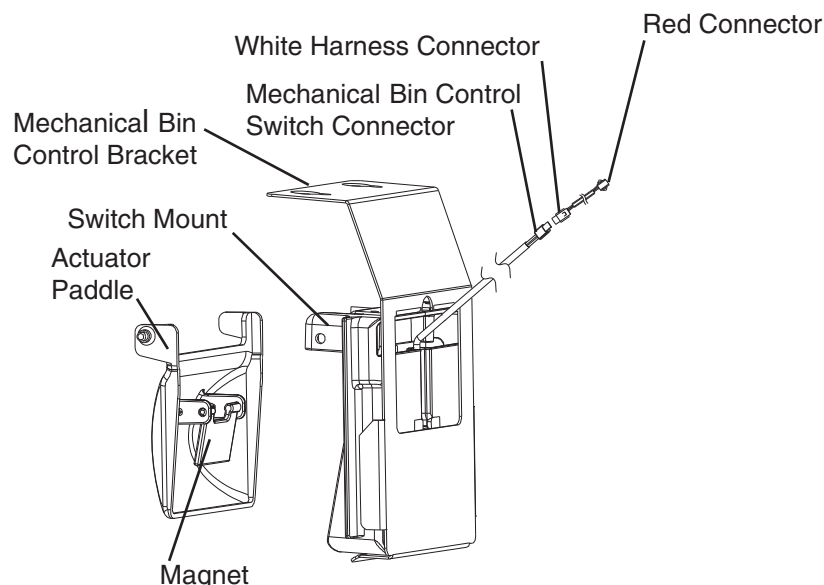

Fig. 1
- 5) Check for continuity across the wires of the red connector. See Fig. 1. When the actuator paddle is not engaged, the mechanical bin control switch is closed. If open, check that the white harness connector is secured to the mechanical bin control switch connector and that the actuator paddle is not sticking. Clean if necessary. See "IV. C.2.b) Mechanical Bin Control Cleaning." See Fig. 1. If the mechanical bin control switch still reads open, replace the mechanical bin control.
- 5) Remove the actuator paddle from the switch mount. See Fig. 1.